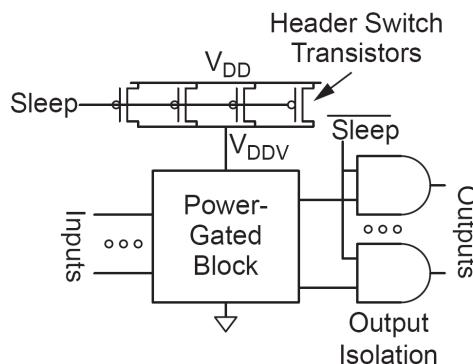

Figure 1. A power-gating arrangement with a pMOS header switch.
In Figure 5.24 in Weste & Harris (repeated below in Figure 1) a pMOS header switch for power gating is seen. Such a switch is used to turn off the static power consumption when a block is not in use. The header switch should be designed such that it does not cause too large an increase in the delay when the gated block is operating. Suppose the pMOS transistor has an ON resistance of $2.5 \text{ k}\Omega \cdot \mu\text{m}$ and the block being gated has an equivalent ON current of 100 mA. V_{DD} is 1.2 V for our process as usual.
- a) Write down the spans for the nine black and six grey PG cells that are numbered in Figure 1. As an example for the black cell, which is above grey cell number 2, the span is 3:2. See also Figure 11.29 in Weste & Harris (this chapter can be downloaded from the CMOS VLSI web site).
- c) If we assume just straight lines in the white space at the bottom of the tree in Figure 1, which of the 32 sums cannot be formed from the tree as shown in Figure 1?
- e) If we (incorrectly) assume that all black and grey PG cell have the same propagation delay (which we call 1 unit delay), which sum(s) will be done last with your solution from task d)? List ALL sums that have this propagation delay. How many PG cells do these longest (critical) paths contain? Ignore the buffers (triangles) shown Figure 1 when you find these paths. It may be helpful to draw the paths in attached schematic and submit it with your solution.